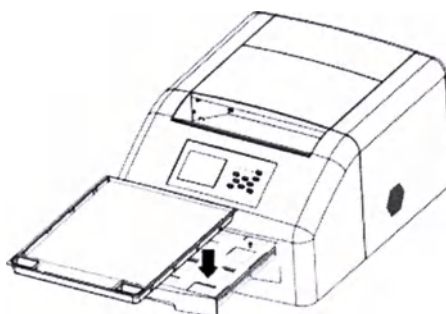

Figure 20 – Removing the printer cassette compartment
- pull out the printer cassette compartment (Figure 20).